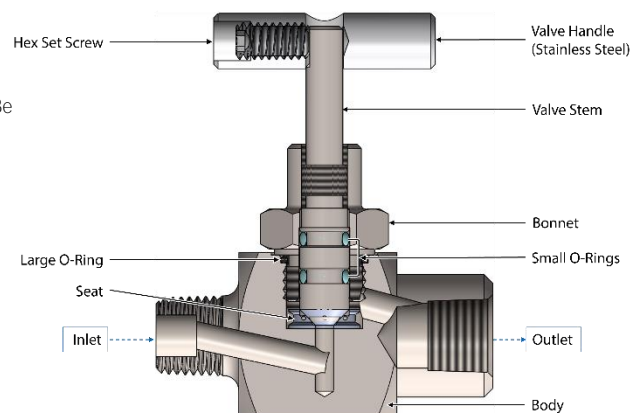

Figure 1: Welker® NV-2MF Instrument Valve Diagram
NEVER use tools to tighten shut or open the NV-2. Hand-tighten only. Do NOT over-torque. At higher pressures, use only a reasonably firm grip. Excessive tightening can damage the seat (*Figure 1*).
3. Using a ⅛ hex wrench, loosen the hex screw and remove the valve handle (*Figure 1*).
4. Using an adjustable wrench, loosen and remove the valve stem/bonnet assembly (*Figure 1*) from the body.
5. Use a seal pick to carefully pick the seat and, if necessary, the retaining ring (not pictured), out of the body (*Figure 1*).
6. Replace the seat (*Figure 1*) and, if necessary, the retaining ring (not pictured).